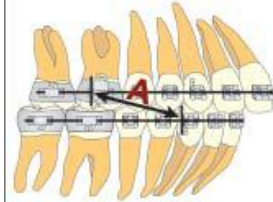

Figure 1
- Measure from the distal edge of the lower cuspid bracket to the distal end of the upper molar facebow tube (Figure 1).
- See the chart below for measurement ranges (A) and part numbers.